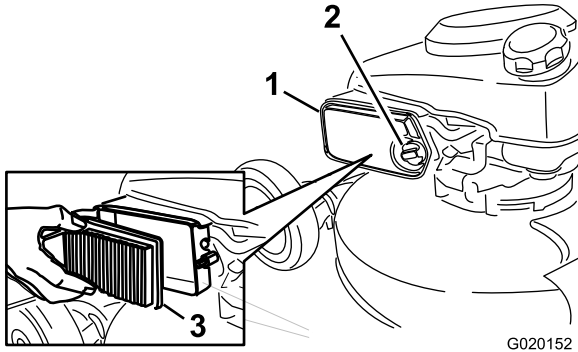

Figure 15
2. Unscrew and open the air-cleaner cover (Figure 15).